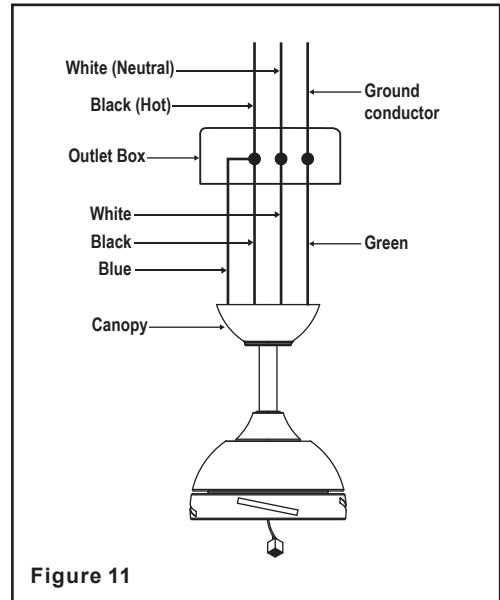

Figure 11
**Step 1.** Connect the ground conductor of the 120V supply (this may be a bare wire or a wire with green colored insulation) to the green ground lead(s) of the fan. (Fig. 11)
**Step 2.** Connect the fan motor white wire to the supply white (neutral) wire using a wire nut. (Fig. 11)
**Step 3.** Connect the fan motor black wire and light kit blue wire to the supply black (hot) wire using a wire nut. (Fig. 11)